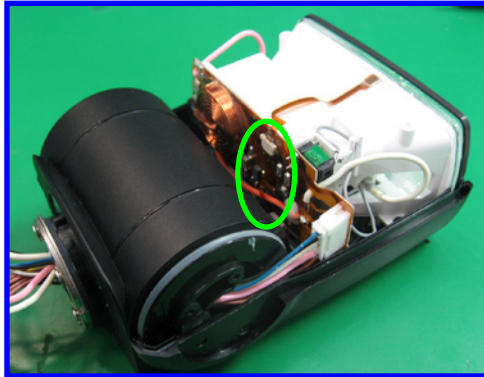

Fig. 031 FPC Connector Position
- ③ Remove the FPC that is inserted into the Flash Head Ass'y. (Fig. 031)